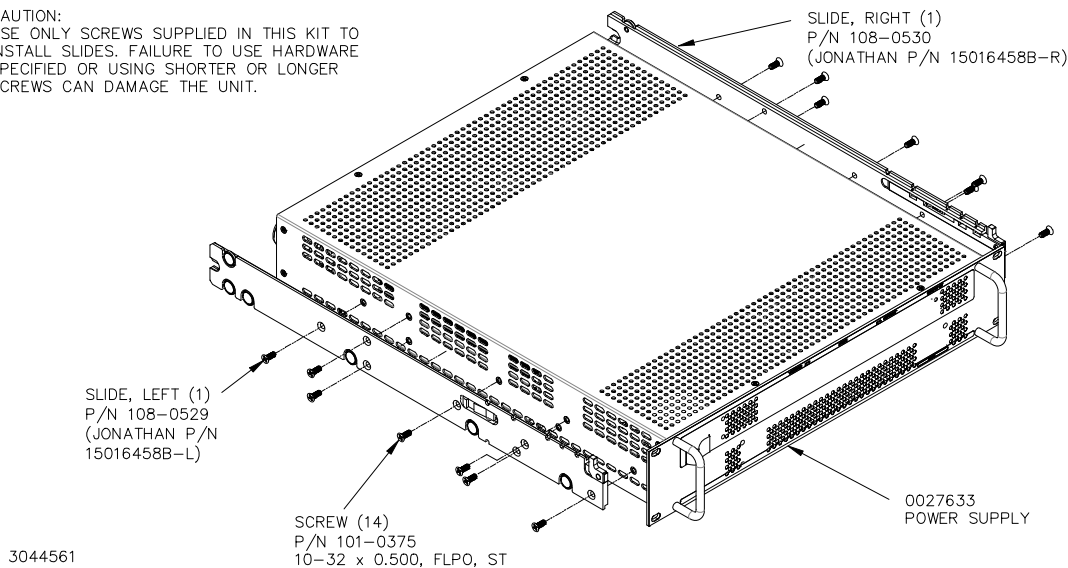

FIGURE 1. INSTALLING CHASSIS SLIDES ON MODEL 0027633 POWER SUPPLY
2.2 PROCEDURE (SEE FIGURE 1)
1. Attach right slide section (P/N 108-0530) to right side of Model 0027633 chassis using seven screws (P/N 101-0375) (see Figure 1).